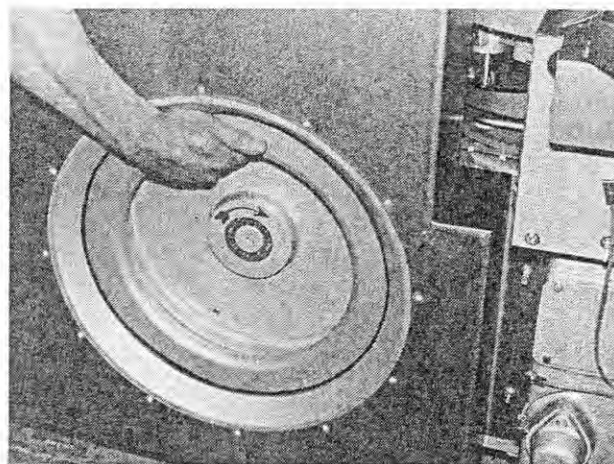

Fig. 240
2. Crank the machine by turning the handwheel in the direction of the arrow (Figure 240).